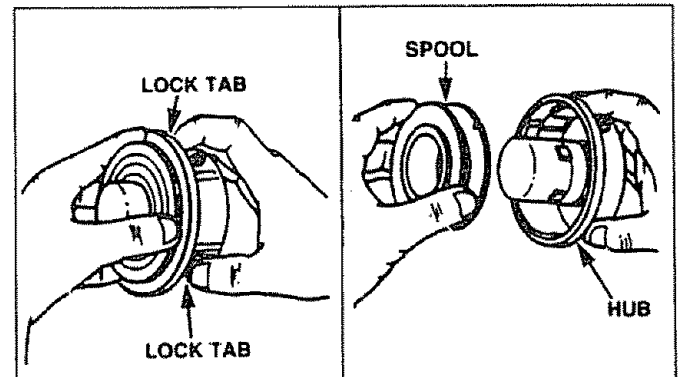

Figure 25
INSTALLING PRE-WOUND SPOOL (Fig. 25, 26, 27, 28, 29 & 30)
- Hold the semi-automatic head as shown. Press the two lock tabs and remove cover. Figure 25